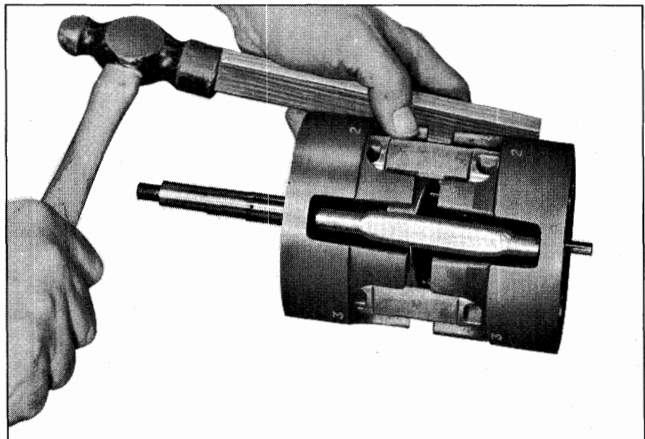

Fig. 5-14 Separating Cylinder Halves
2. Turn compressor shaft to position swash plate towards front of compressor in area of discharge crossover tube. Using J-9492, drive discharge crossover tube out of rear head assembly toward front of compressor or use a wooden block as shown in Fig. 5-14. DO NOT drive toward rear of compressor as discharge crossover tube may damage swash plate.